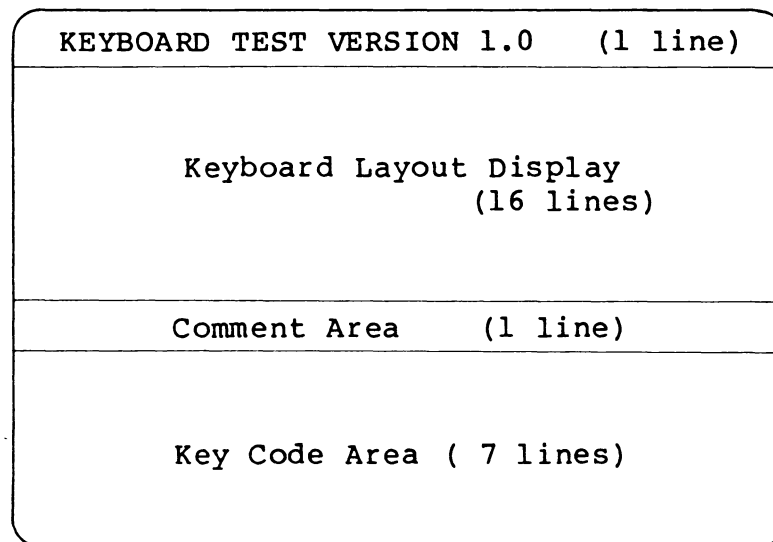
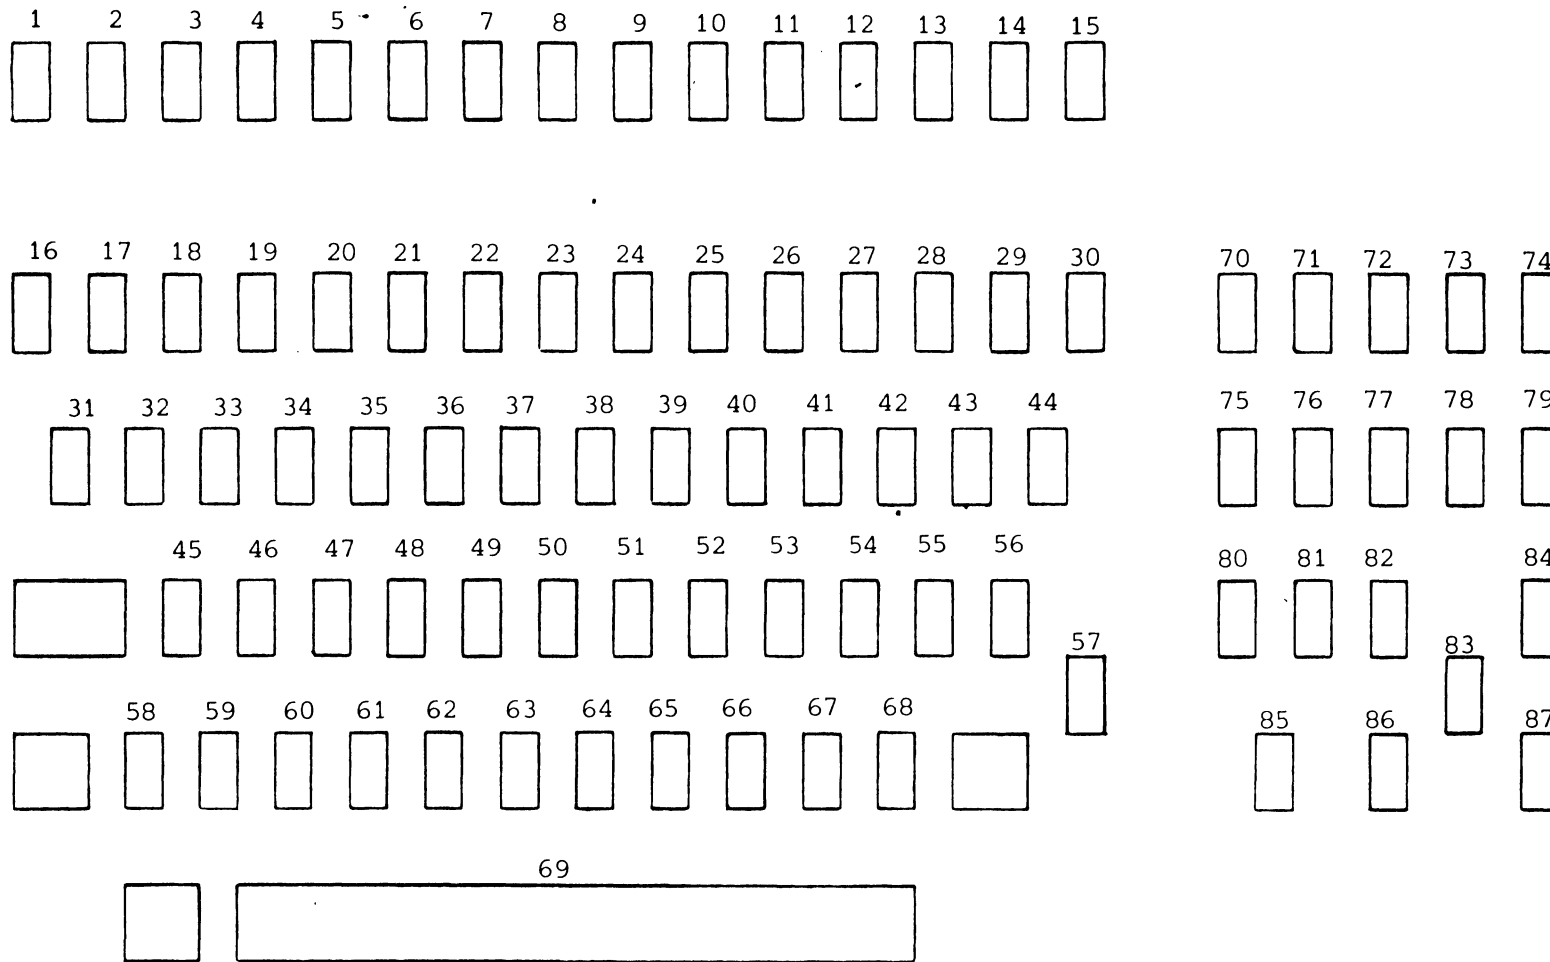

Fig. 4-1 Display Division on CRT
Fig. 4-2 Key Arrangement Drawing
Starting the program, the key arrangement drawing as shown in Fig. 4-2 (without key numbers) is displayed on the key arrangement area of the CRT as shown in Fig. 4-1.
- a) Observing the comments in the comment area of the CRT, press the key indicated by the blinking cursor in the key arrangement area, in the order of the numbers shown in the key arrangement drawing (Fig. 4-2), from 1 thru 87. (Enter the key #1 twice simultaneously.)